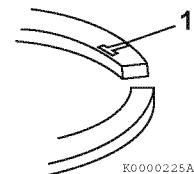

Figure 6-89
Note: Reinstall the top and second piston rings with the stamped “makers mark” (Figure 6-89, (1)) facing the top of the piston. The “makers mark” may vary in appearance but will always be located on the top surface of the piston ring adjacent to the piston ring gap. The oil ring and oil ring expander can be installed either side up.